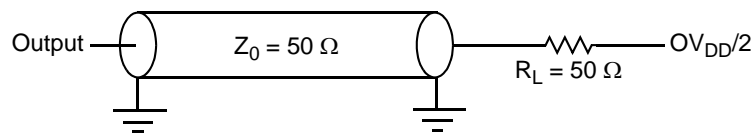

Figure 29. AC Test Load for the JTAG Interface
1. All outputs are measured from the midpoint voltage of the falling/rising edge of t_{TCLK} to the midpoint of the signal in question. The output timings are measured at the pins. All output timings assume a purely resistive 50-Ω load (see Figure 29). Time-of-flight delays must be added for trace lengths, vias, and connectors in the system.
2. The symbols used for timing specifications follow the pattern of $t_{(first\ two\ letters\ of\ functional\ block)(signal)(state)(reference)(state)}$ for inputs and $t_{(first\ two\ letters\ of\ functional\ block)(reference)(state)(signal)(state)}$ for outputs. For example, t_{JTDVXH} symbolizes JTAG device timing (JT) with respect to the time data input signals (D) reaching the valid state (V) relative to the t_{JTG} clock reference (K) going to the high (H) state or setup time. Also, t_{JTDXKH} symbolizes JTAG timing (JT) with respect to the time data input signals (D) went invalid (X) relative to the t_{JTG} clock reference (K) going to the high (H) state. Note that, in general, the clock reference symbol representation is based on three letters representing the clock of a particular functional. For rise and fall times, the latter convention is used with the appropriate letter: R (rise) or F (fall).
Figure 29 provides the AC test load for TDO and the boundary-scan outputs.